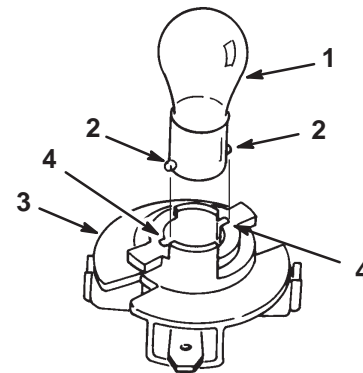

Figure 26
8. Push and rotate the bulb counterclockwise about 1/4 turn until it stops and remove the bulb from the bulb holder (Fig. 26).
1. Align the metal pins on the base of the bulb with the slots in the bulb holder and insert the base into the holder (Fig. 26).